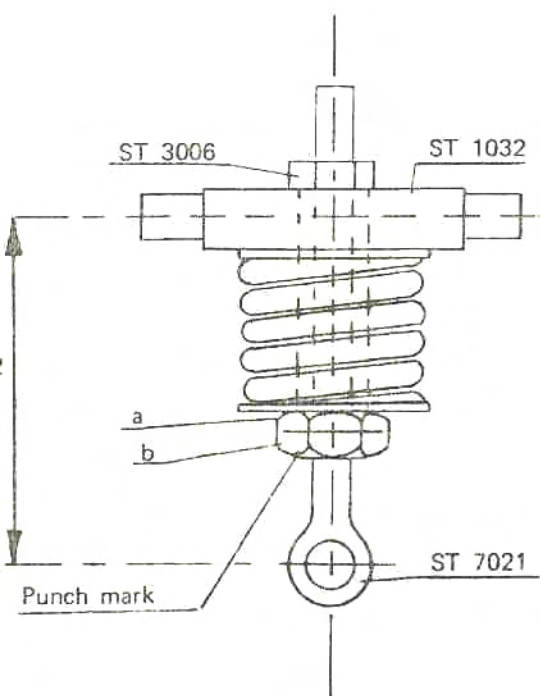

Fig. 8
8. Assemble the pressure springs as shown in fig. 8 and 9. Tighten the nuts (a) until the springs are completely pressed together and then ease off 1—1/2 turn. Hold the nut (a) with a wrench and tighten the locking nut (b) to a torque tightness of 15 kpm and lock it by means of three punch marks in the ST 3006. Screw in the eye bolts ST 7021 as much as indicated.